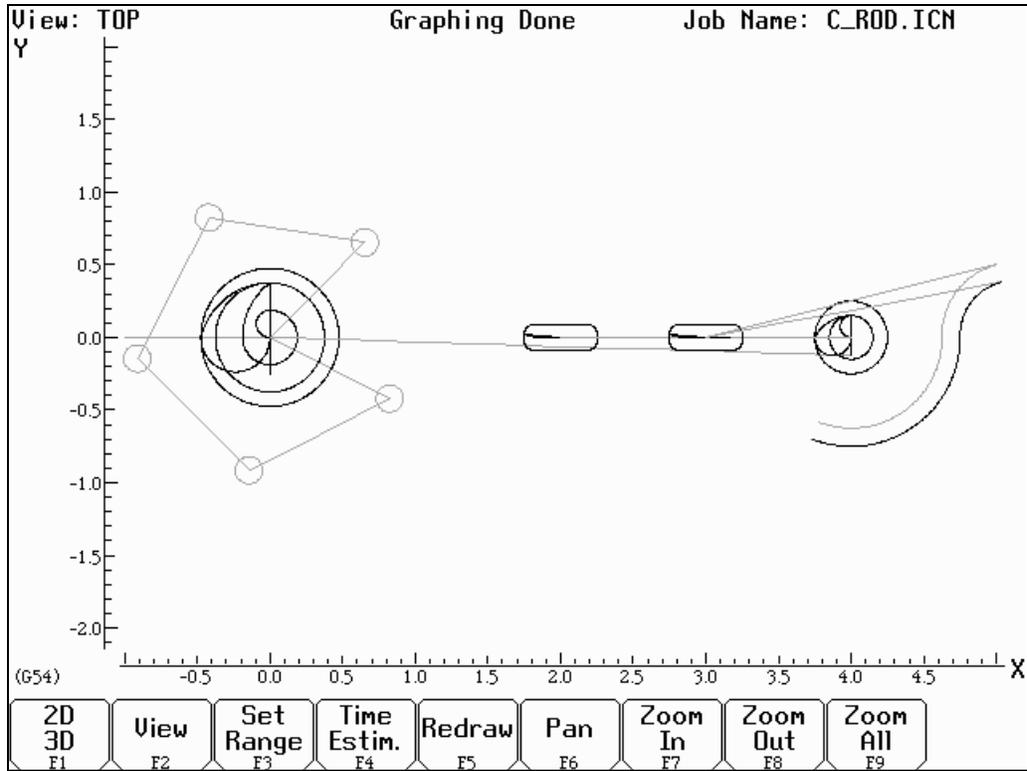

FIG. 5 - Draw screen showing Bolt Holes, Pockets and first arc of part
- F8** Graph Observe Figure 5. The graphics show a preview of the part up to this point. This preview can be used to detect problems that may occur if the part was cut now.